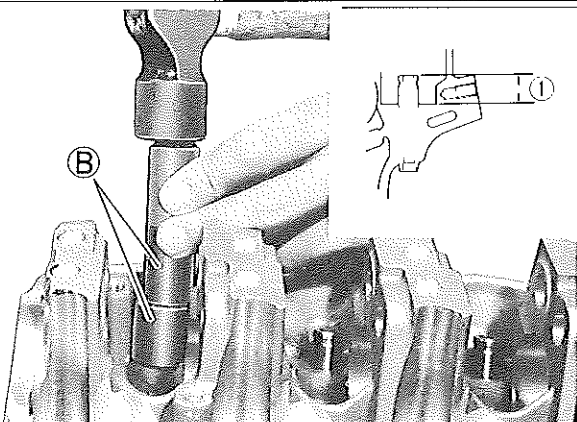

Fig. 4-60
- 2) Heat the cylinder head uniformly to anywhere between 80° C and 100° C (176° F-212° F) so that the head will not distort, and drive the oversize guide into the hole with the valve guide installer set (B) (09916-57310 and 09916-57320). See Fig. 4-60. Be sure to carry out this step speedily so that all guides will go into the cylinder head in steady temperature state.